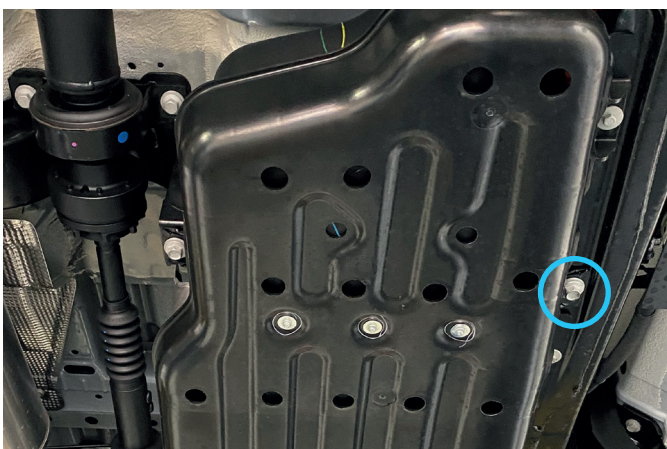

Fig. 3
3. Loosen front left factory bolt as shown in fig.3.